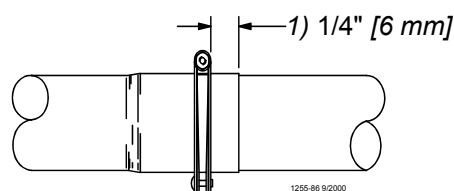

Figure 32. Clamp Installation
Continue down the entire length of the feeder line so that every joint is secured with a standard Clamp or Clamp/Anti-Roost Bracket. **Figure 32** shows the proper clamp location on the tube joint. *Do not tighten the clamp at this time.*
- make sure the clamps are located, as shown in **Figure 32**.